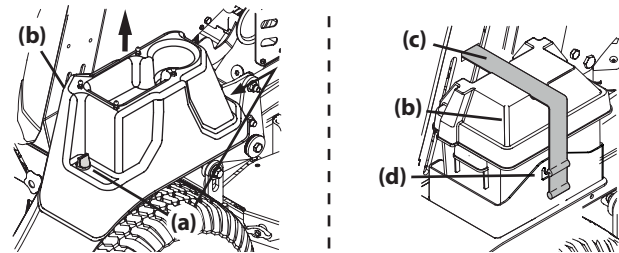

Figure 15
- Mowers with 48, 54 or 60 Inch Decks - Remove the two thumb screws (a) securing the battery cover (b) to the right fender. Lift up to remove the battery cover (Figure 15).
- Mowers with 36 Inch Decks - Unhook the rubber strap (c) securing the battery cover (b) to the battery tray (d). Lift up to remove the battery cover (Figure 15).